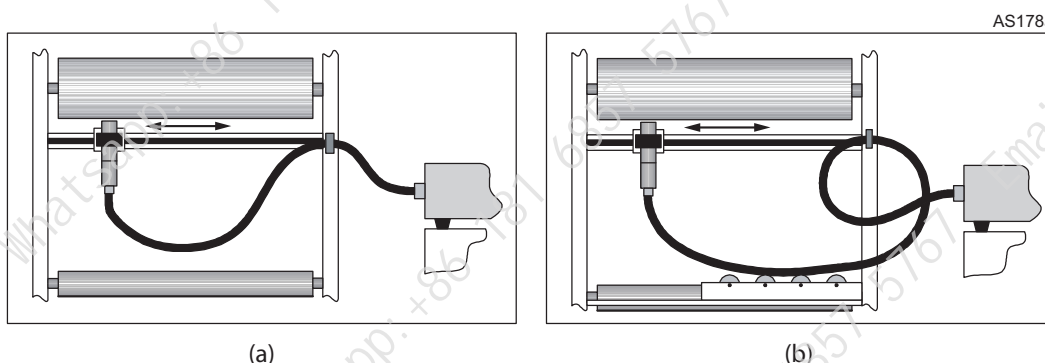

Figure 6. Conduit support rollers
- Make sure that the conduit does not touch any other objects when the printhead moves. Some applications need a special support for the conduit, to prevent any abrasion and allow the conduit to move and bend correctly. For example, Figure 6 (a) shows a conduit without any support. A set of rollers is added in Figure 6 (b). the rollers support the conduit, but do not prevent the free movement of the conduit.